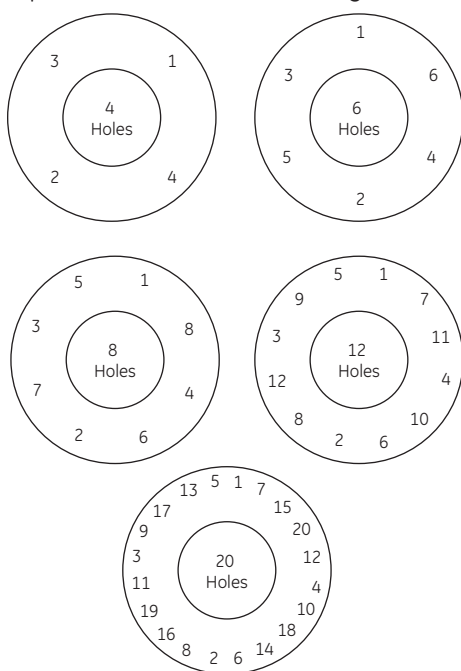

Figure 21: Bolt Tightening Patterns
- Install cover plate on top of base such that the pilot will be aligned for proper tubing connections. Make note of the length of the studs or cap screws. The two longer ones will straddle the vertical line of the inlet sensing port on the main base of the pilot valve. Install the bracket between the cover plate and the nut or cap screw. Torque to the values shown in Table 9 in 15 ft-lb (20 N-m) increments making sure there is a uniform gap between the base and the cover plate. Torque in the sequence shown in Figure 21. Be sure that the bracket is aligned so that the two smaller pilot attachment holes are above the horizontal plane of the cover plate.
7. Install cover plate on top of base such that the pilot will be aligned for proper tubing connections. Make note of the length of the studs or cap screws. The two longer ones will straddle the vertical line of the inlet sensing port on the main base of the pilot valve. Install the bracket between the cover plate and the nut or cap screw. Torque to the values found in Table 9 using the torque patterns in Figure 21 and Table 10.